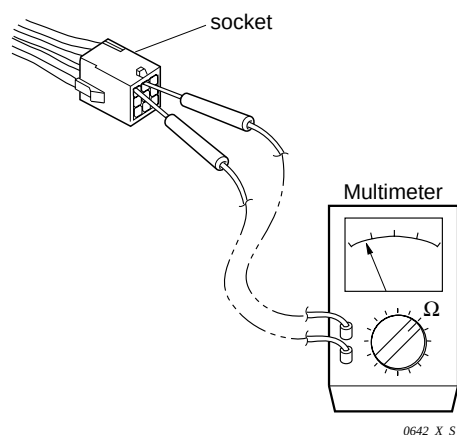

Fig. 4-6
(2) Checking the Protective Devices
- Then check the continuity of the plug's (and/or socket's) terminal as in **Fig. 4-6**